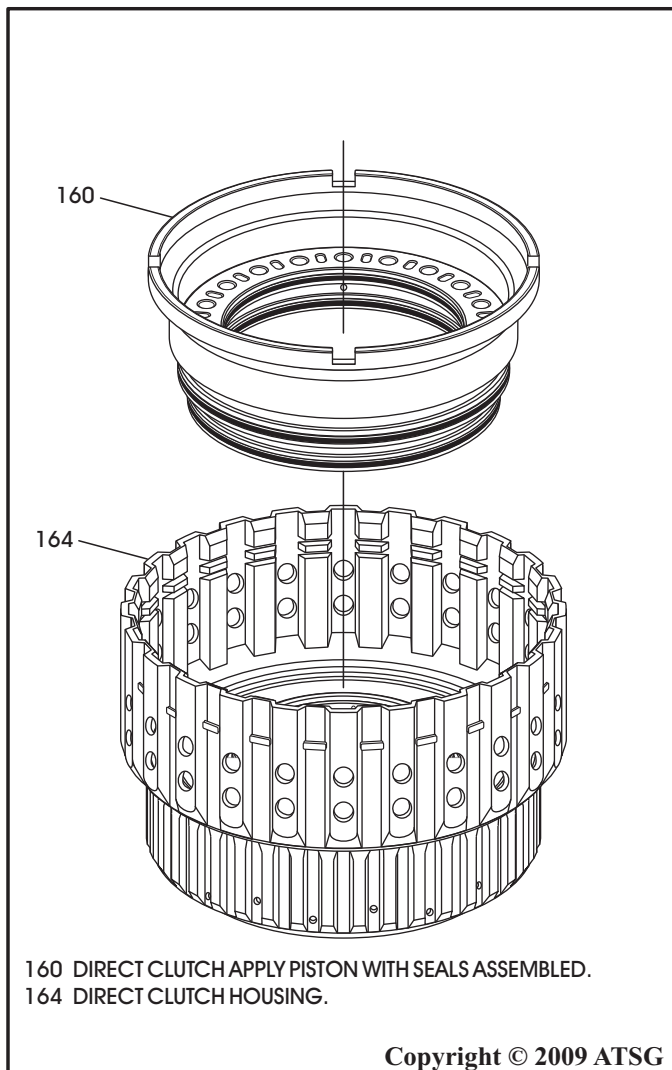

Figure 142
7. Lubricate the seals on the direct clutch piston with small amount of Trans-Jel®, and install into the direct clutch housing, as shown in Figure 142.